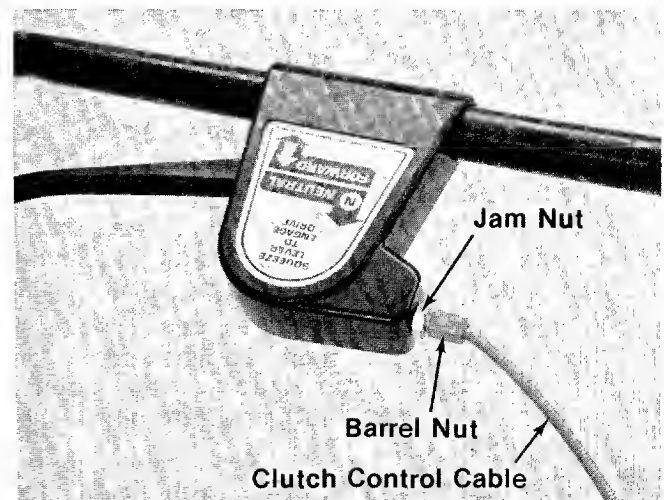

FIGURE 14.
1. To increase belt tension, loosen jam nut and back off two or three threads. Thread the barrel nut on end of control cable outward two or three threads. Retighten jam nut. See figure 14.
2. To decrease belt tension, loosen jam nut and back off two or three threads. Thread the barrel nut on end of control cable inward two or three threads. Retighten jam nut. See figure 14.